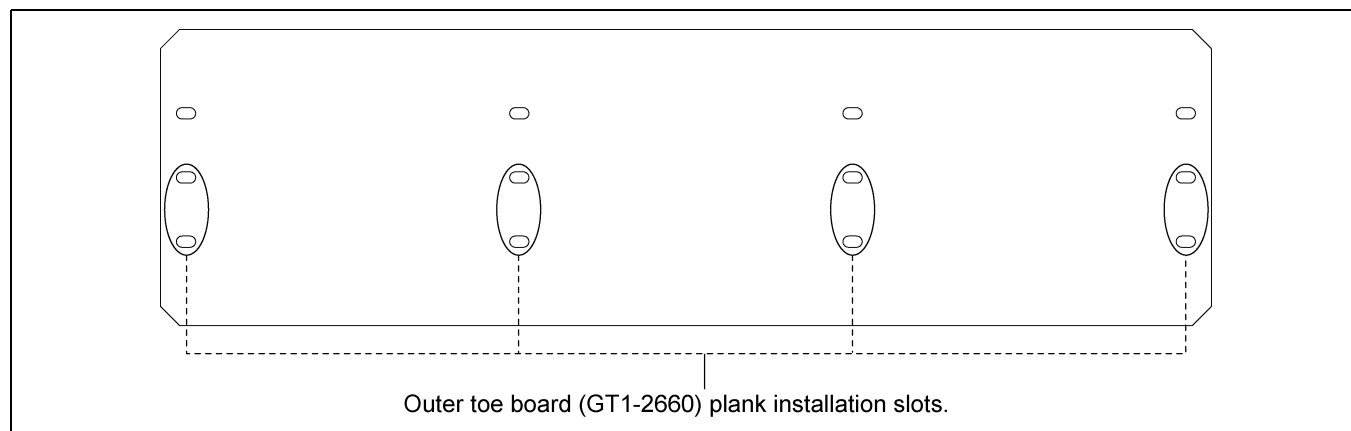

Figure 5H 23'-4" Outer Toe Board (GT1-2660)
4. Outer toe board (GT1-2660) is arranged with many slots to install plank. Install planks to corresponding slots as shown in Figure 5H.